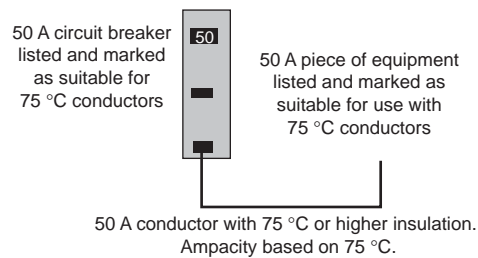

Figure 5: Conductors with Higher Temperature Ratings
- Conductors with higher temperature ratings, provided the equipment is listed and identified for use with such conductors (see Figure 5).